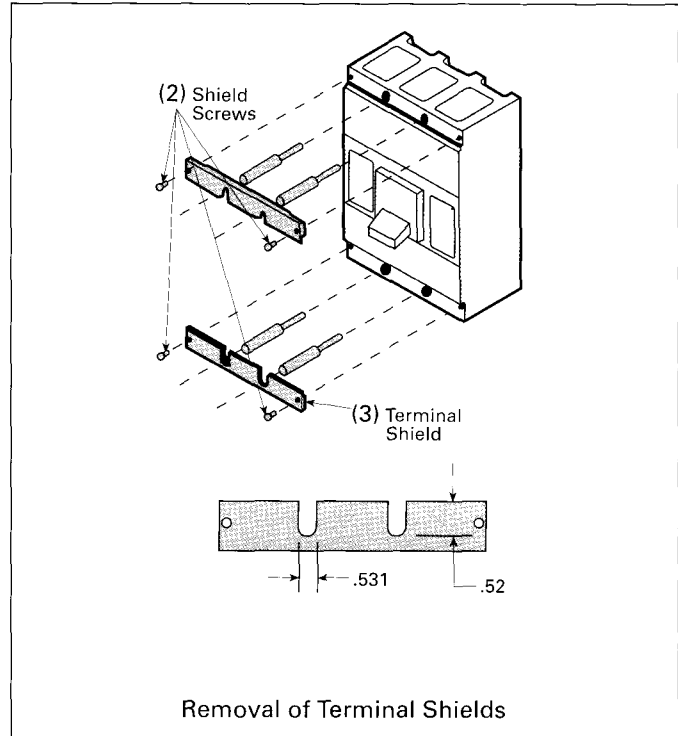

Figure 1
- C. Remove the four shield screws **(2)** and two lug shields **(3)** (Figure 1).